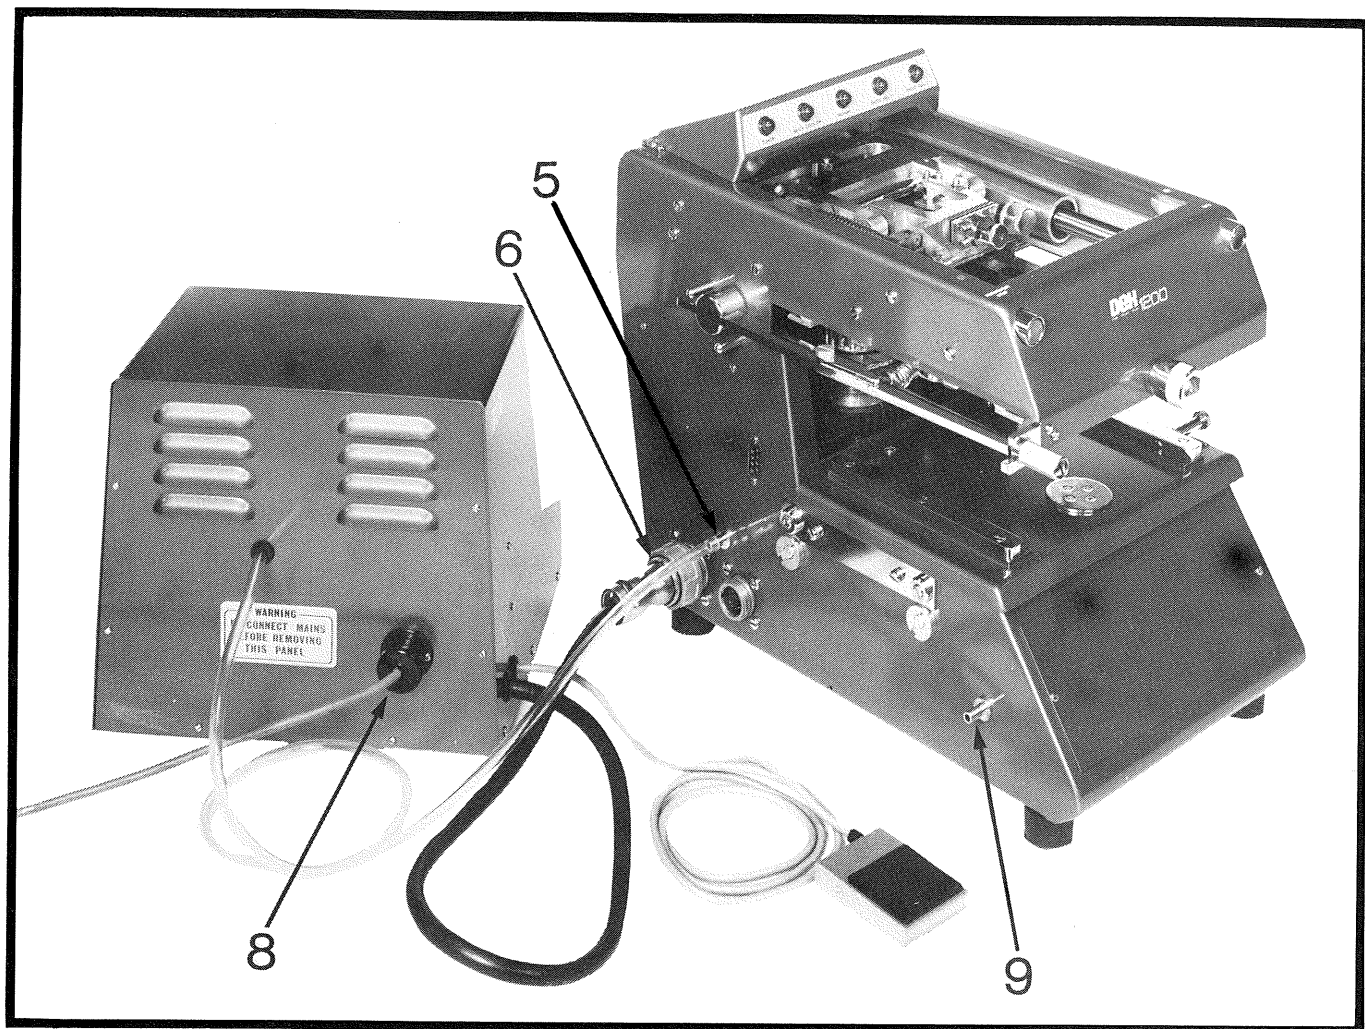

Fig 4
- A 6 Fit plastic tubing from Control Console over union (5) on Printer (Fig 4).